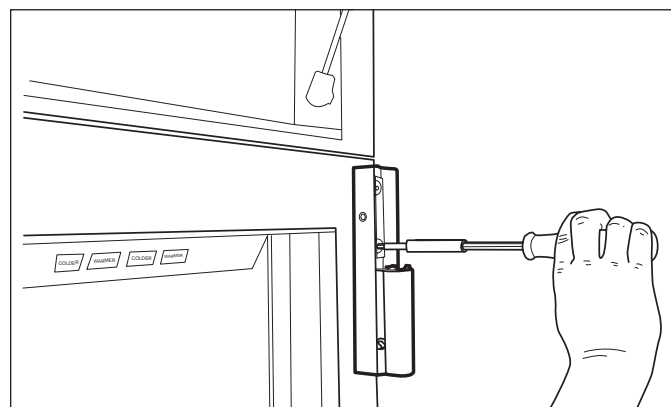

Figure 2-15. Loosen Cabinet Hinge Screws
4. Loosen the two cabinet hinge screws 1/4 to 1/2 turn (See Figure 2-15).